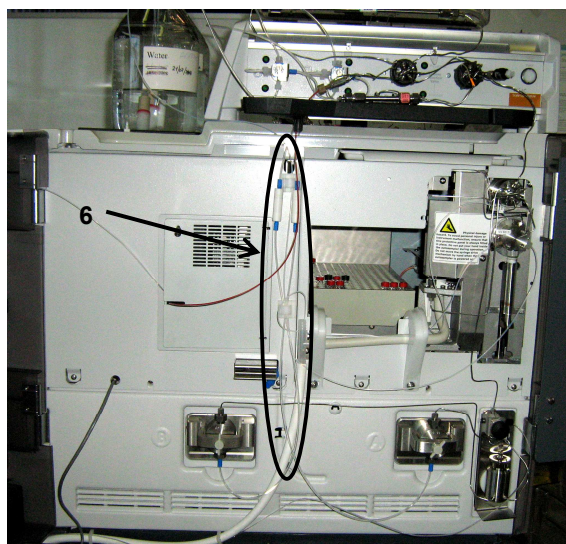

Figure 8: Clips on the front panels of the system
7. Clip the solvent lines behind the clips on the face panel (6) between the pump and the SUM Figure 8. This finishes the de-bubbler installation.